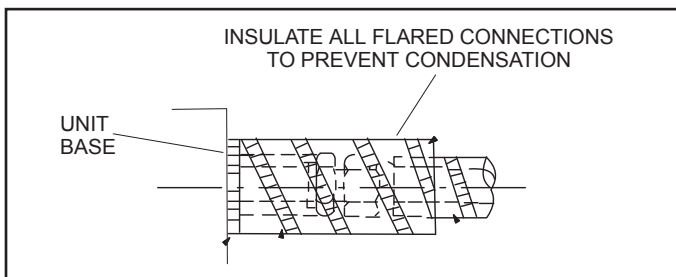

Figure 7. Insulate Flared Connections
- Flared connections should always be accessible and must be insulated to prevent condensation. See Figure 7.